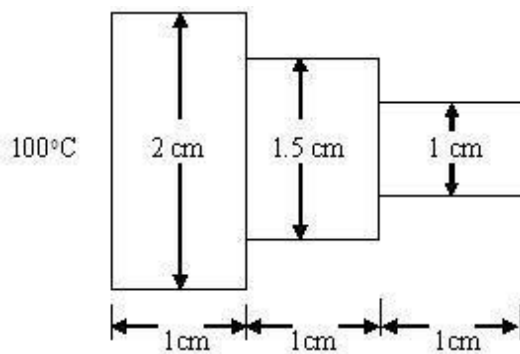

Figure.4
5. Calculate the temperature distribution and the heat dissipating capacity of a fin shown in Figure.4. The thermal conductivity of the material is $200 \text{ W/m} \cdot \text{K}$. The surface transfer coefficient is $0.5 \text{ W/m}^2 \cdot \text{K}$. The ambient temperature is 30°C . the thickness of the fin is 1 cm .